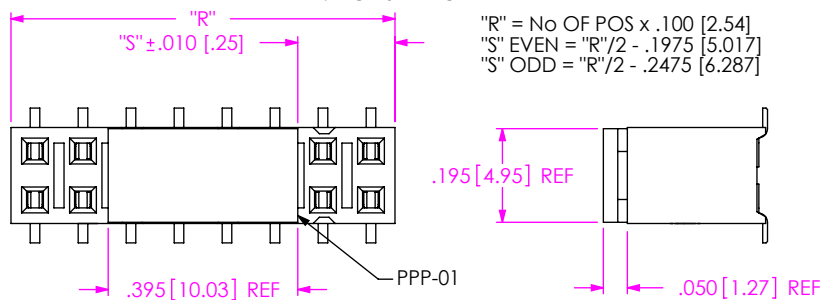

FIGURE 6
- K: POLYIMIDE FILM PAD (POS 2 THROUGH 40 - SEE NOTE 5) (USE K-DOT-.256-.375-.005, SEE FIG 6, SHT 2)